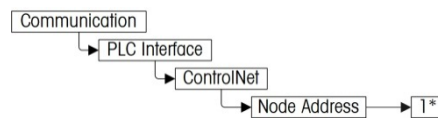
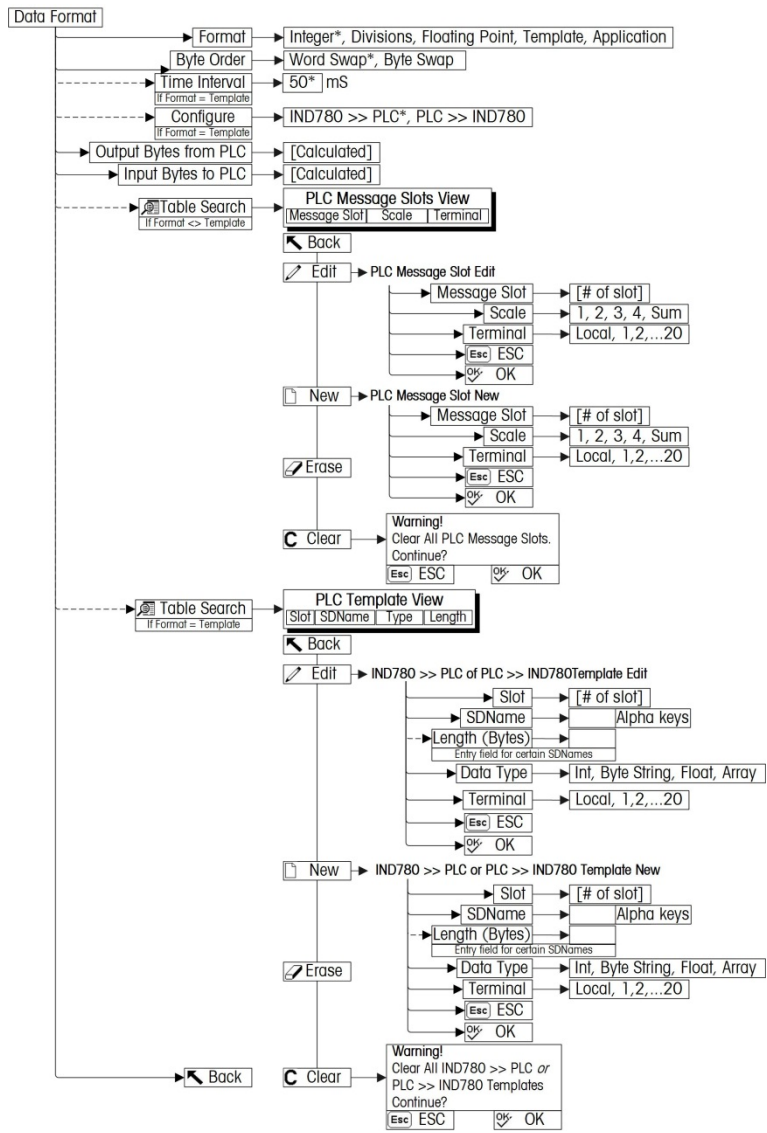

Figure 3-8: The ControlNet Program Block
Figure 3-9: PLC Data Format Setup Block
The IND780 terminal automatically detects the presence of a ControlNet Kit option board if one is installed. When the IND780 detects that a ControlNet board is present, it enables the ControlNet parameters in setup at **Communication > PLC Interface > ControlNet**. Figure 3-8 shows the ControlNet program block and Figure 3-9 the PLC data format setup block at **Communication > PLC Interface > Data Format**, with default settings indicated by an asterisk.
1. Select **Communication > PLC Interface > Data Format** (Figure 3-9).